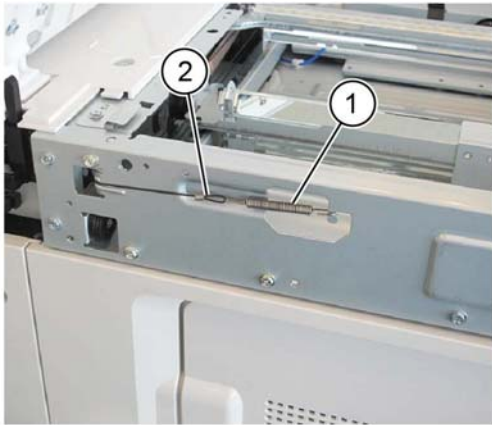

Figure 4 Preparation
8. Prepare to remove the carriage cable, Figure 4:
- a. Unhook the extension spring (1) from the frame.
- b. Detach the cable (2) from the extension spring.